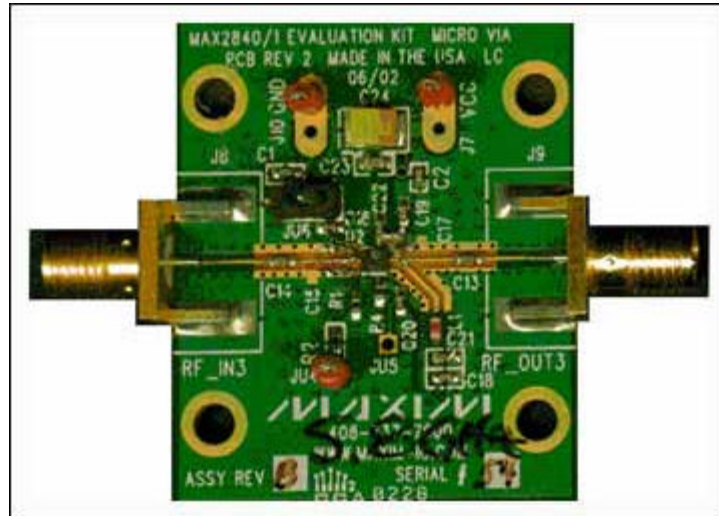

Figure 7. The MAX2840 EVkit
- **Photograph.** Figure 7 is a photograph of the MAX2840 evaluation kit optimized for 5.8GHz and demonstrates the locations of the input and output matching components.